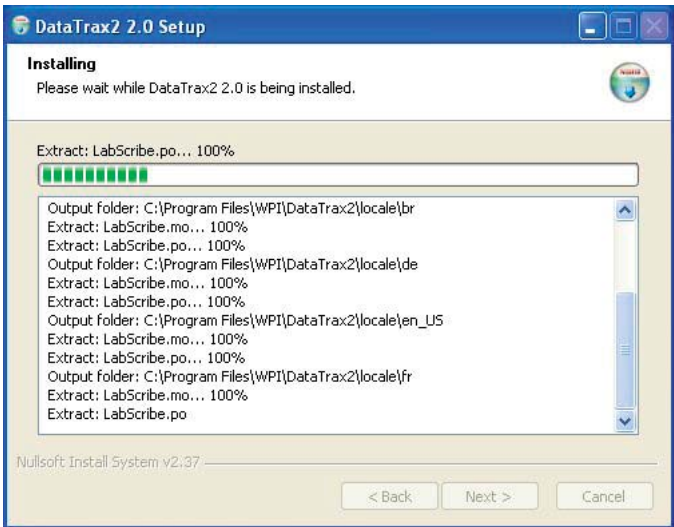

Fig. 23—Install progress
5. Accept the default location or click the **Browse** button and select the desired location. Once the location is chosen, click the **Install** button. A window displays briefly showing the progress of the installation (**Fig. 23**).